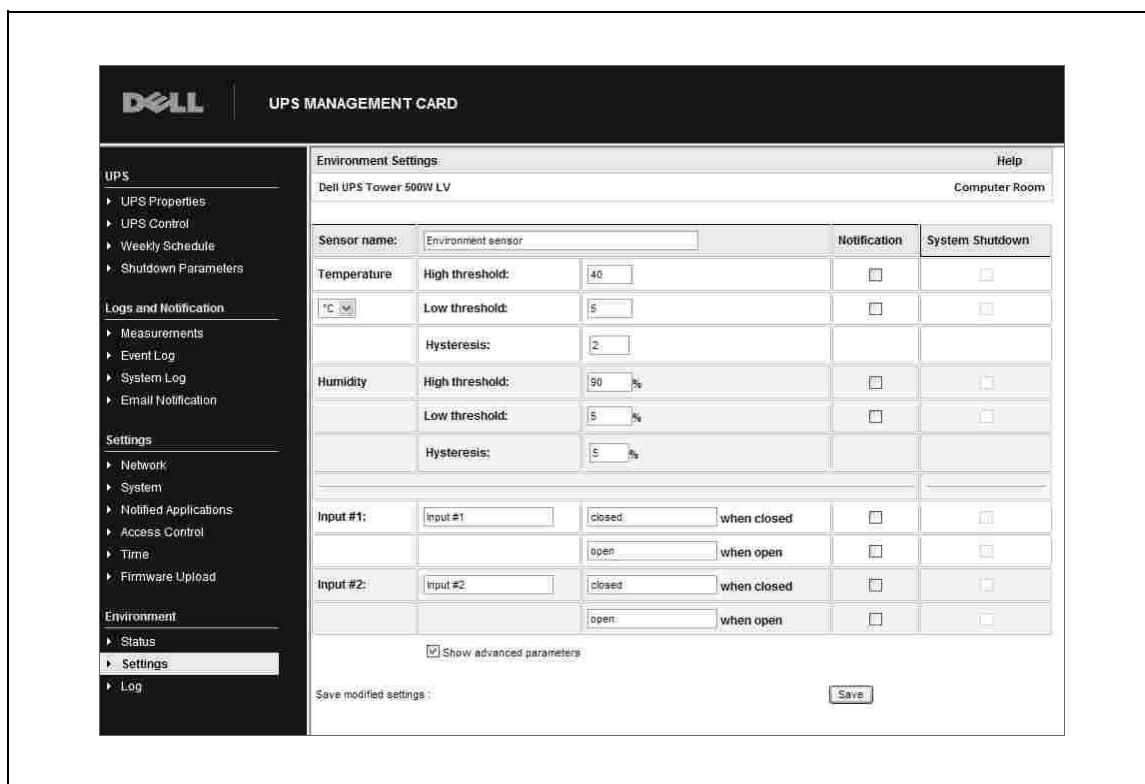

Figure 7. Environment Settings Page (Advanced Parameters Shown)
- 1 Select Settings from the Environment menu to display the Environment Settings page (see Figure 7).